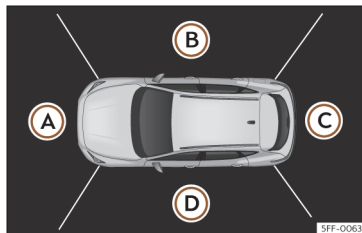

Fig. 189 Viewing the top view system: aerial view.
Function buttons **Fig. 189**:
The aerial view is generated by combining the images from all the cameras  **>>> Fig. 189**. The aerial view can be selected by pressing the *vehicle* in the area.
Select the corresponding view by pressing the different areas **>>> Fig. 189** (A) to (D) of the aerial view or the reduced aerial view.